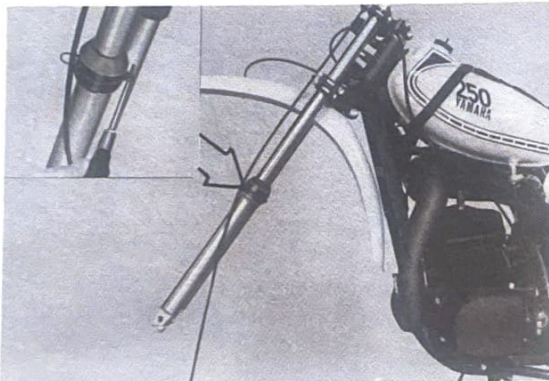

Fig. 12
5. Install the wire holder, which stays on the front brake wire on the left front fork dust seal. Thread the front brake wire through the wire holders. (Fig. 12)
Enfiler le câble de frein avant à travers les passe-câbles. (Fig. 12)